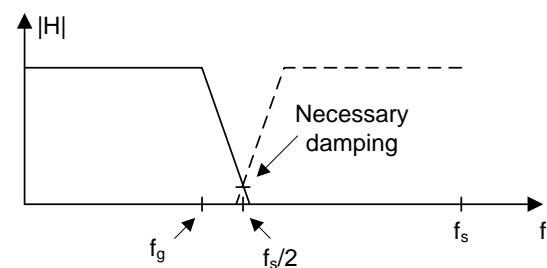

Figure 43 Anti-aliasing filter
In a practical situation we can never guarantee that the signal we sample does not contain this higher frequency components, there might be disturbances or what ever, so we need to remove these frequency components before the sampling. To do this we let the signal pass a low pass filter (LP) that only lets signals with frequencies lower than half the sampling frequency pass. We introduce an *anti-aliasing filter*, *Figure 43*. In reality there are no filters that block out the high frequencies totally but we can at least attenuate them so much that they disappear in the resolution of the ADC. A well